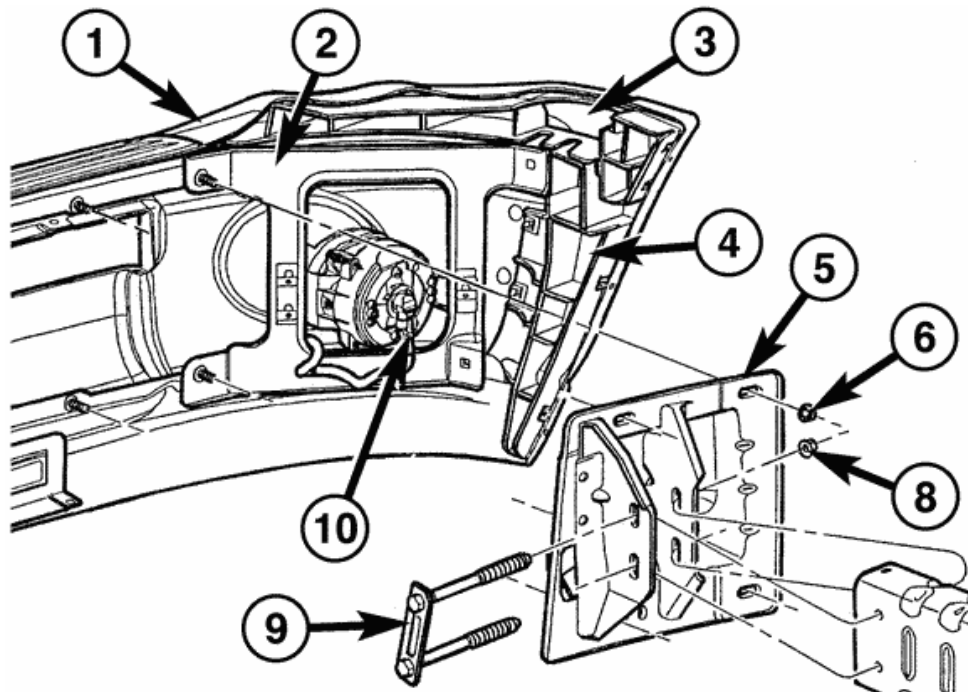

Figure 4 (MOUNTING BRACKET DETAIL)
- D. Using an 18mm socket and extension remove the eight fasteners (four per side) connecting the frame horn to the bumper. (Ref. Figure 4). Carefully pull bumper away from vehicle and place on a padded surface to avoid damage.